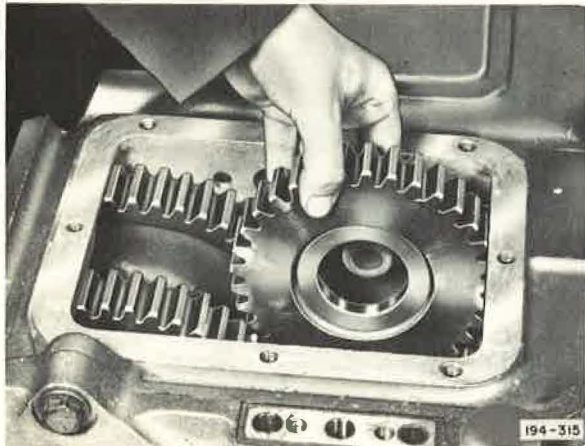

Figure 9. Removing Fourth Speed Gear
10. Remove fourth speed gear and thrust washer through transmission case top cover opening. See Figure 9.